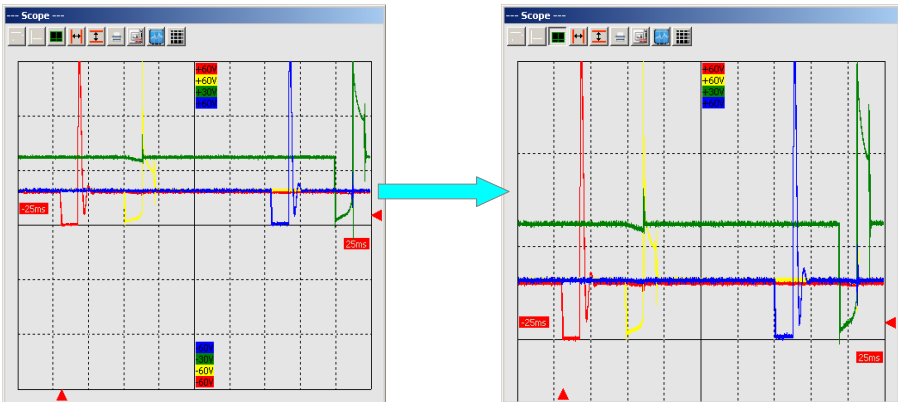

Figure 7.15
3. *Switch half grid ON/OFF*: This function is useful for precise analysis of positive signals. After you click on this icon the positive half doubles in vertical size. You can see window with standard grid on the left and a half grid on the right on Figure 7.15.